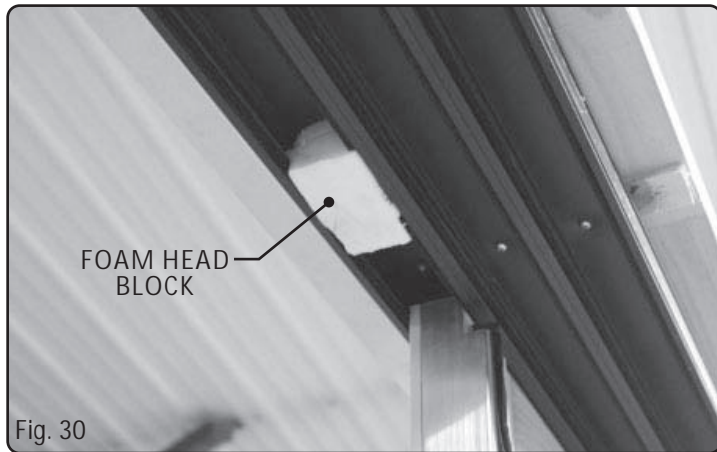

Fig. 30
- Temporarily place the head track cap in the head track to determine the foam block's placement, (Fig. 30 & 31).